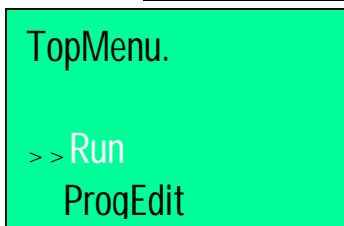

Fig. 2.5
2.1.1.1/ **Run**:Executes a program (figure 2.5).